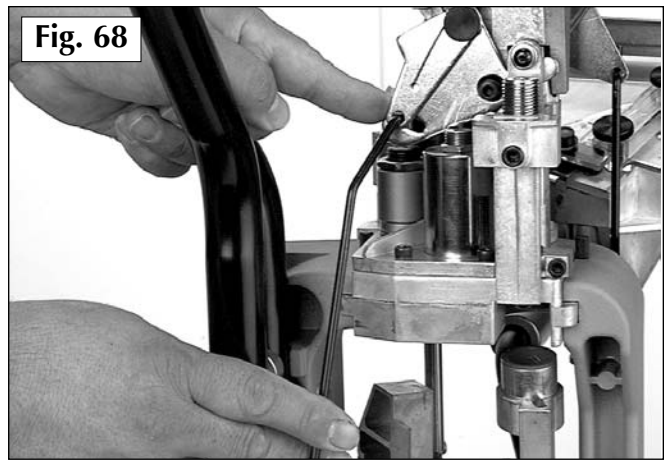

Fig. 68
3. Remove the shot bar return rod (#16733). **Fig. 68**